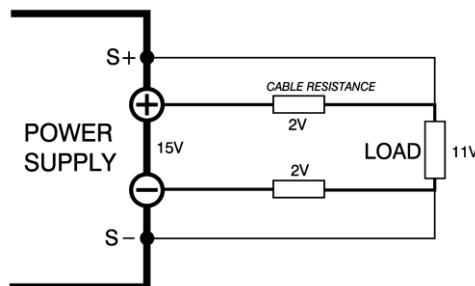

Figure 6.4: Remote sensing, voltage drop in load leads subtracts from maximum DC output.
- In order to compensate for the voltage-drop across the load leads, the unit will have to supply a higher voltage, see Figure 6.4.